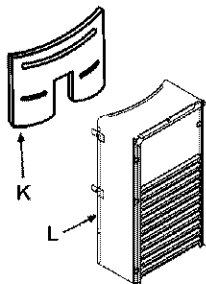

FIGURE 1.
- Carefully plan the place where you are going to put the water heater. Correct combustion, vent action, and vent pipe installation are very important in preventing death from possible carbon monoxide poisoning and fires. See figure 1.
Should you choose to apply an insulation blanket to this heater, you should follow these instructions (See Figure 1 for identification of components mentioned below). Failure to follow these instructions can restrict the air flow required for proper combustion, potentially resulting in fire, asphyxiation, serious personal injury or death.